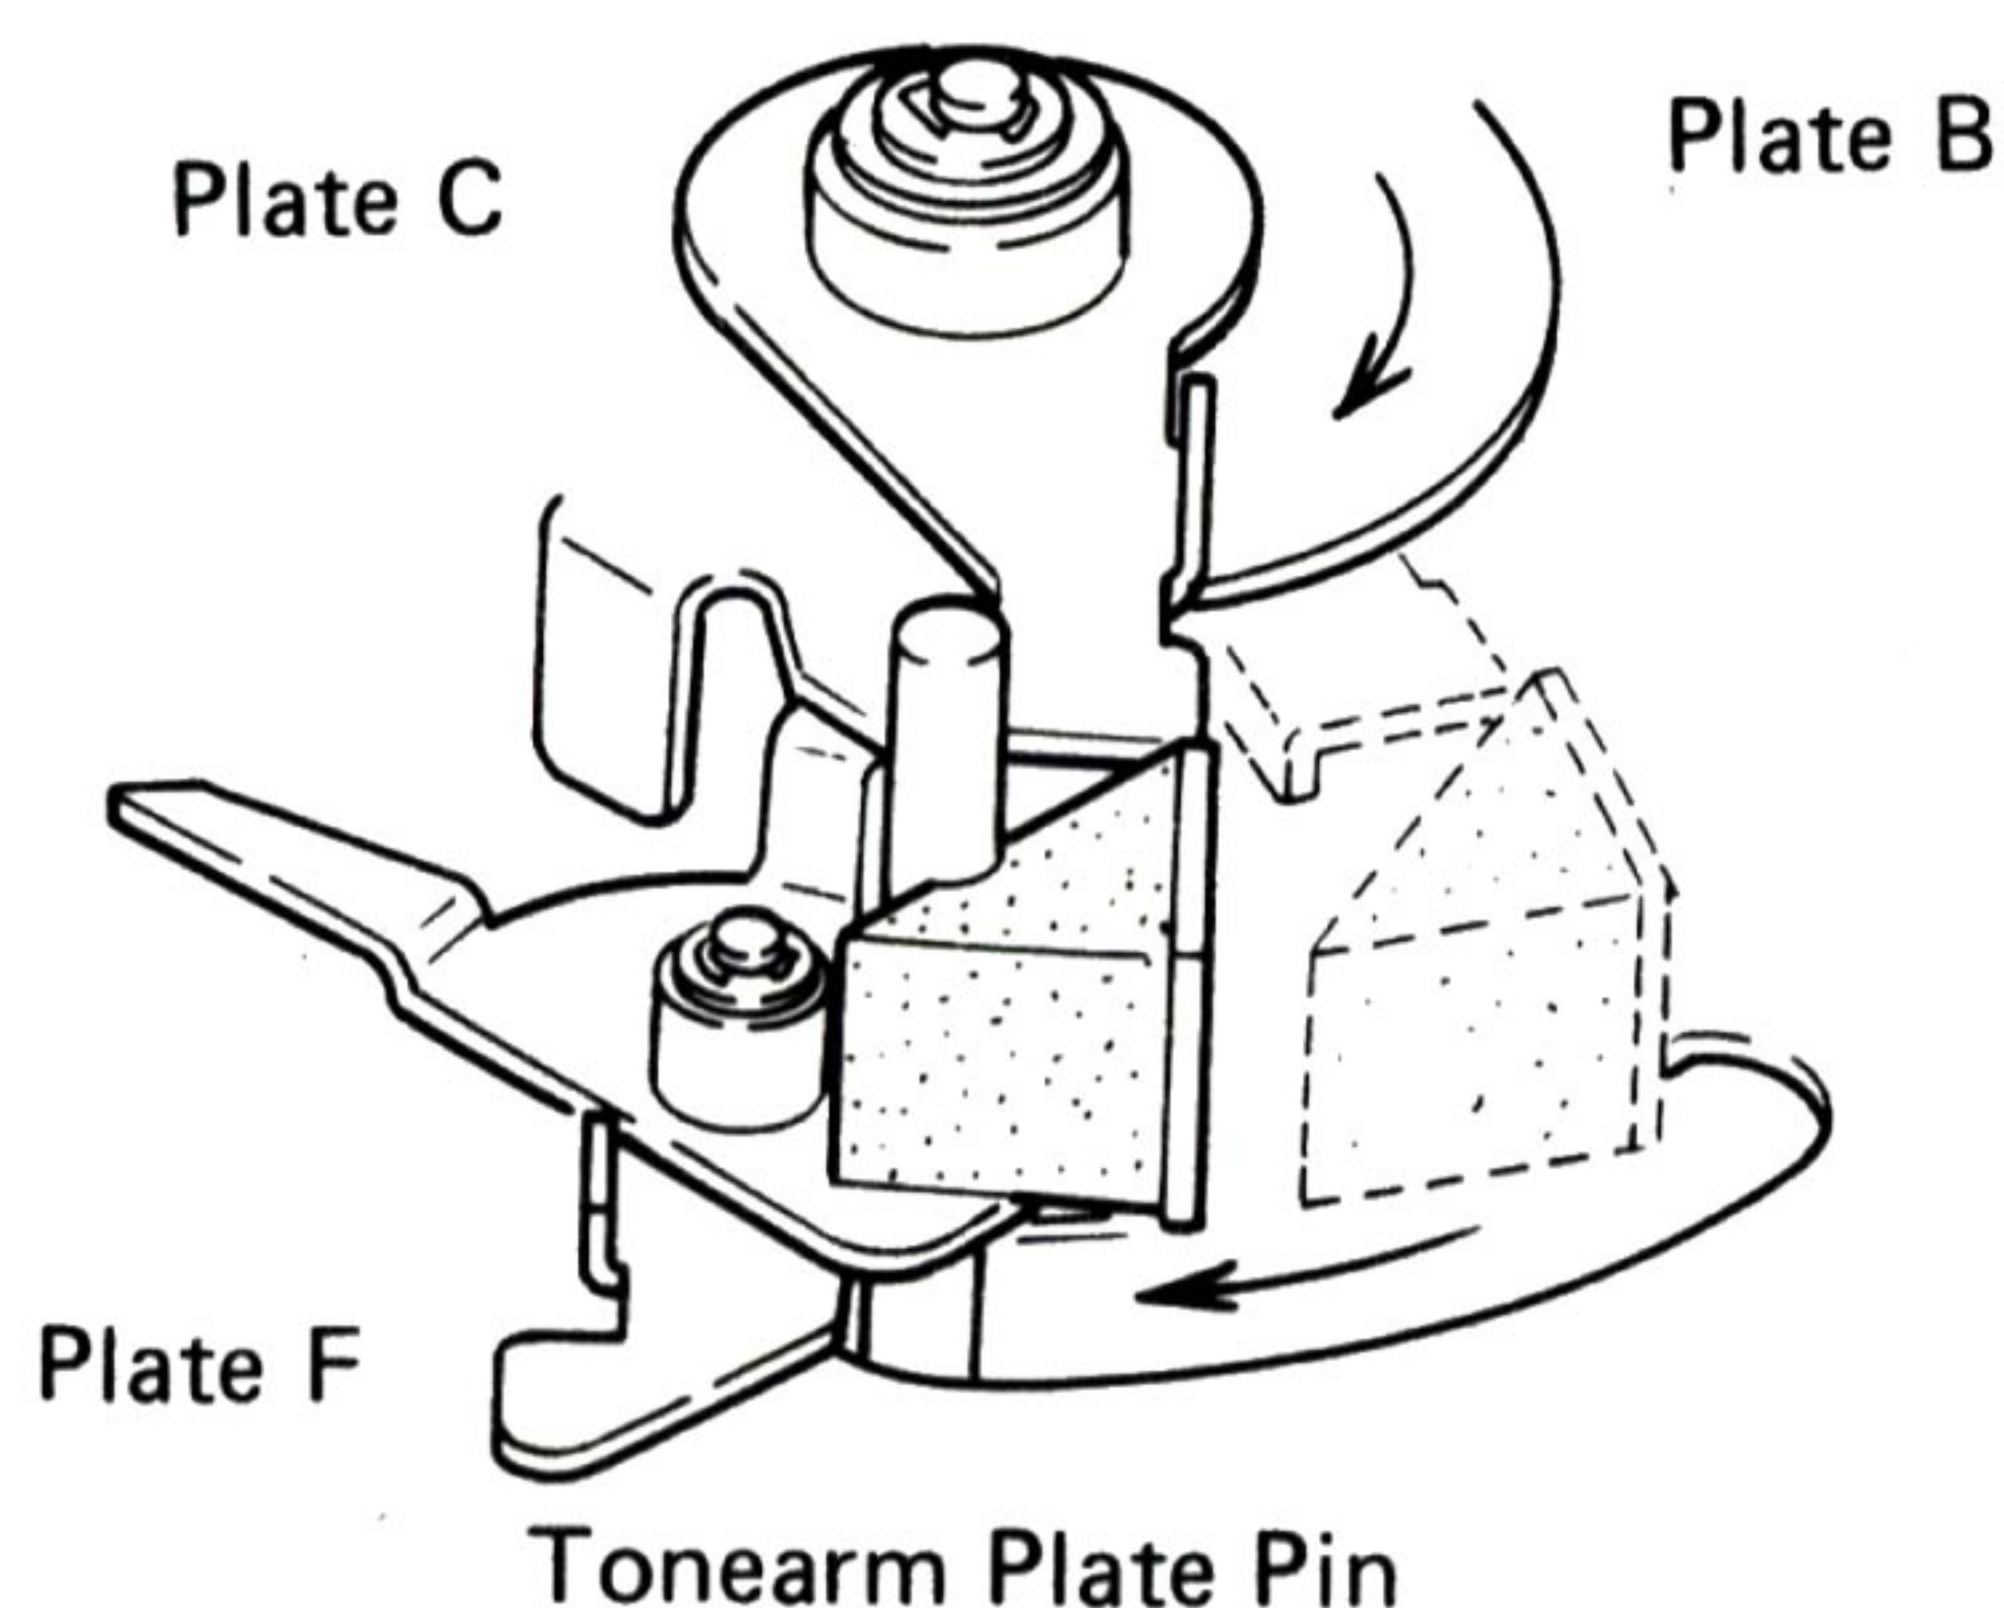

Fig. 15
- As plate B rotates, plate C (mounted on plate B) moves with it, grasping the tonearm plate in conjunction with plate F (Fig. 15).